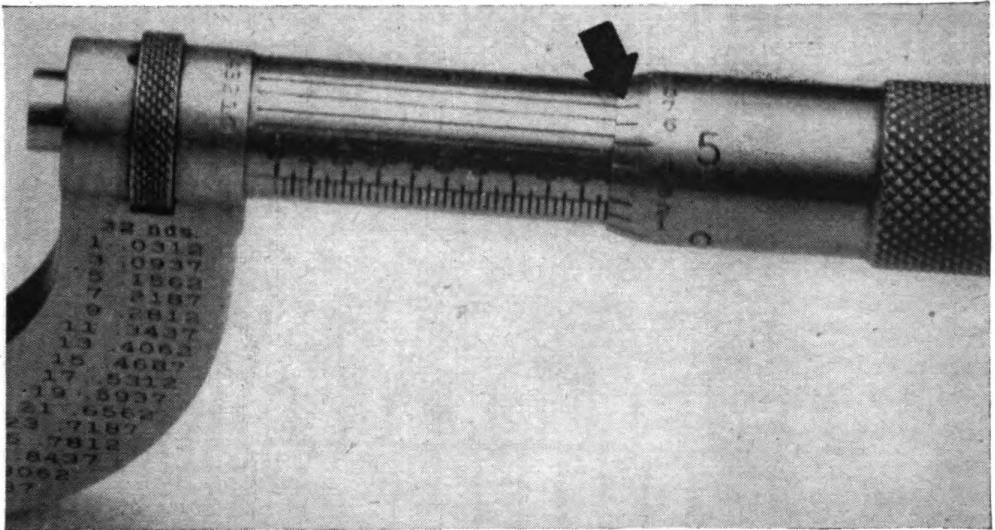

Figure 74. Vernier scale on a micrometer.
(3) For very accurate work it is sometimes necessary to read the micrometer to within  $\frac{1}{10,000}$  inch. In order to be able to do this, the micrometer must have a vernier scale on it. The vernier scale is located on the barrel. It is a series of 11 lines marking off 10 spaces parallel to the center line of the barrel. (See fig. 74.) The space between two of